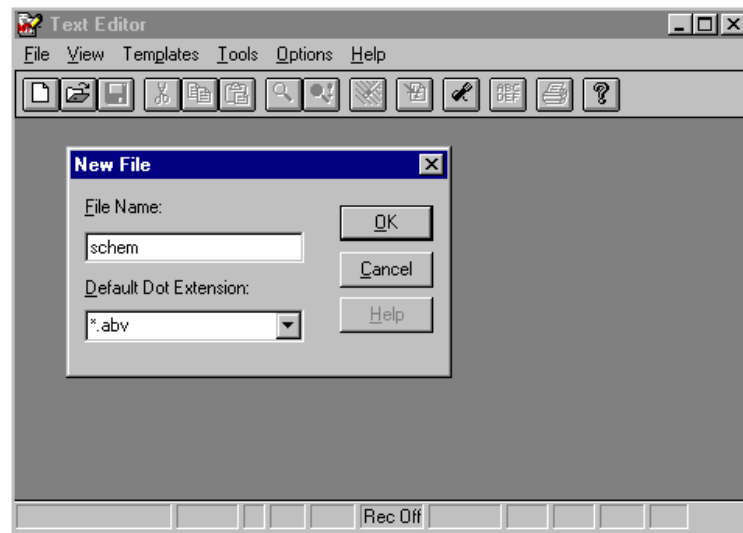

Figure 1-2. New File Dialog box
2. Click on ABEL Test Vectors in the New field and then click **OK**. The Text Editor is launched, along with the New File dialog box (Figure 1-2), prompting you for the new file name.